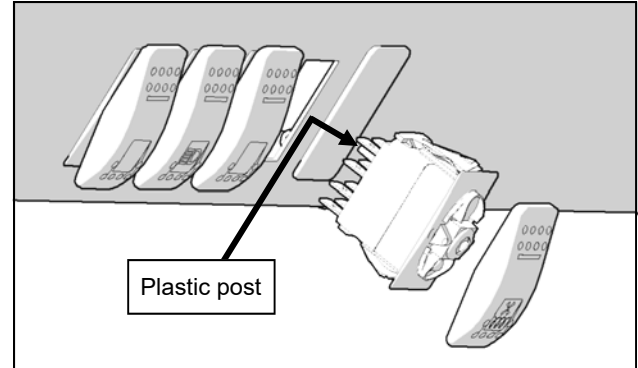

Fig. 3.1
- 3.1 Remove one of the switch plugs from the console and install the heater switch as shown. See Figure 3.1.